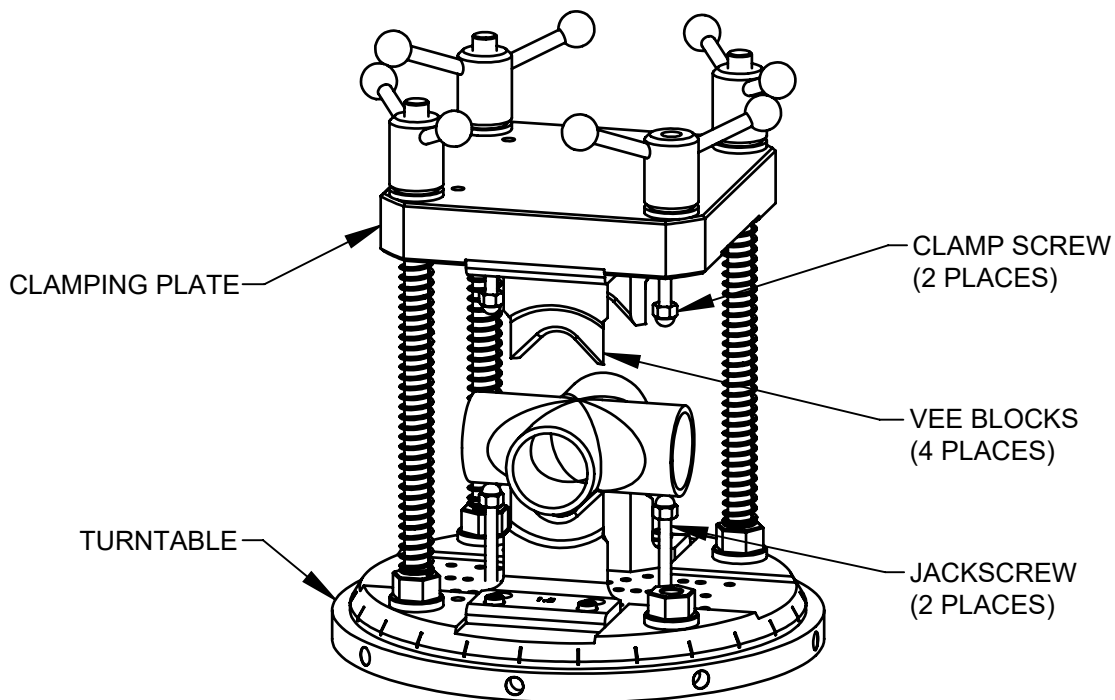

Figure 7: Crosses
1. Attach the upper and lower Vee-Blocks by holding the cross to be prepped over the Lower Turntable Plate in the approximate position (refer to Fig. 7).